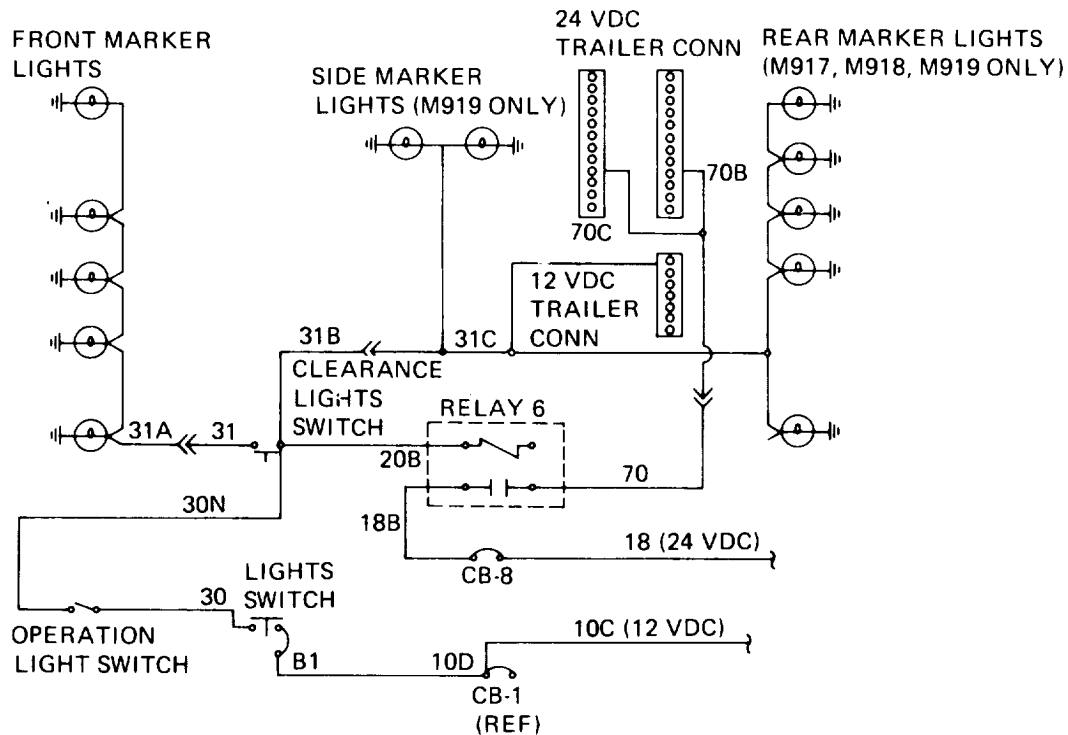

Figure 5-33. Marker Lamps Circuit
b. *Troubleshooting.* The marker lamps circuit is straightforward and troubleshooting can, for the most part, be based on observation of the lamp(s) not working and reference to the circuit schematic, figure 5-33. The checks in table 5-9 can be used to isolate a problem.